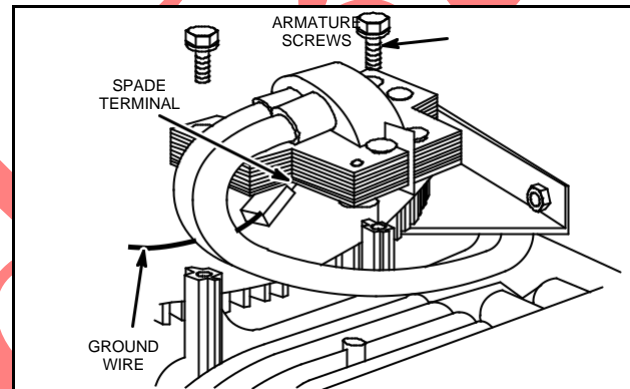

Fig. 4 – Remove Armature
4. Remove two armature mounting screws and lift off armature, Fig. 4.
3. Remove armature screws and lift off armature, Fig. 4.